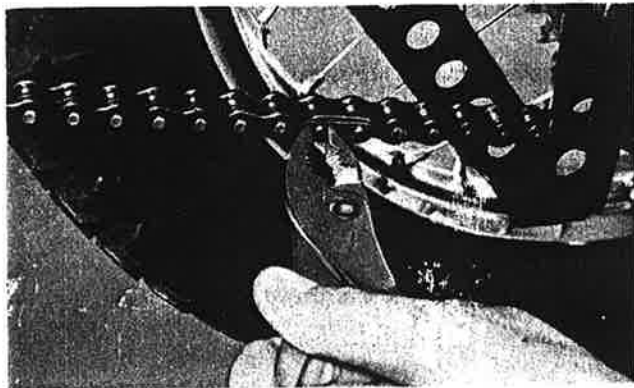

Fig. 3-1-21
2. Remove master link and chain. (Fig. 3-1-21)